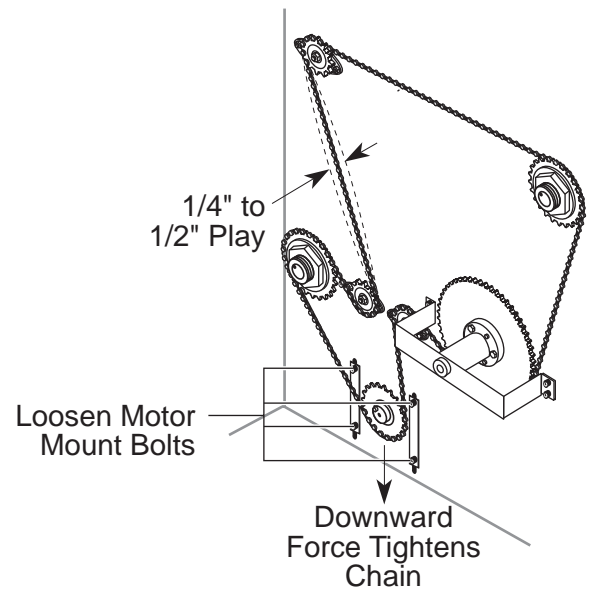

Figure 4-6: Adjusting the Chain Tension
- Loosen all four motor mount bolts using the $\frac{3}{16}$ " hex wrench as shown in Figure 4-6. The motor should just move freely within the slots.